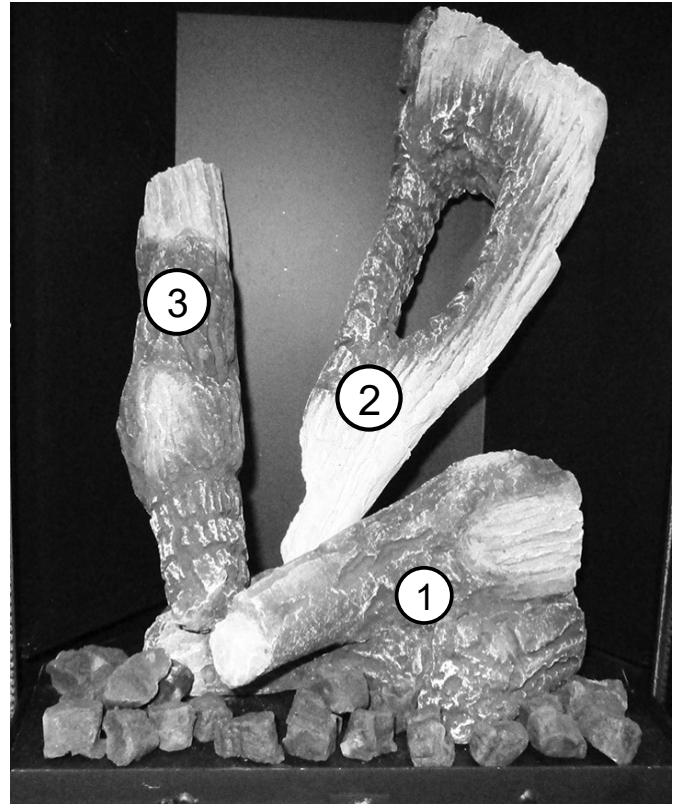
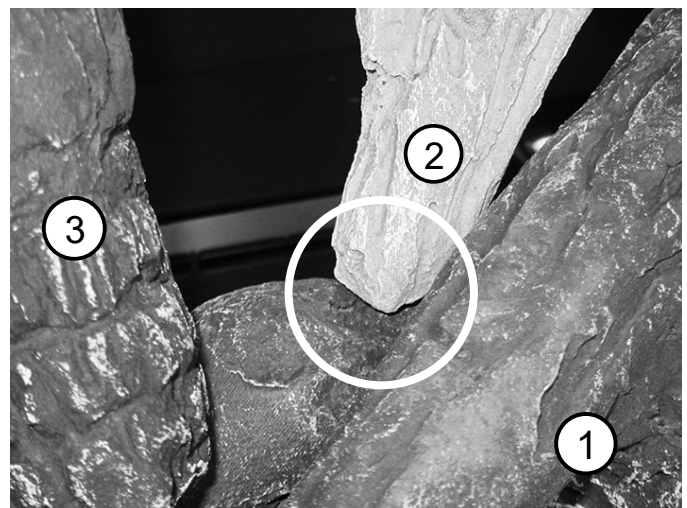

Figure 12.1. Fully assembled log set.
Figure 12.2. Rest the end of the Right Log in the small pocket on the Base Log.
2. **Right Log:** Rest the end of the Right Log #2 in the small pocket on the Base Log as shown in fig. 12.2. Rest the upper end of the log against the back corner of the firebox as shown in fig. 12.1.
3. **Left Log:** Engage the hole in the charred end of the Left Log #3 with the Base Log pin and lean it up against the back corner of the firebox. See figs. 12.1 and 12.2.